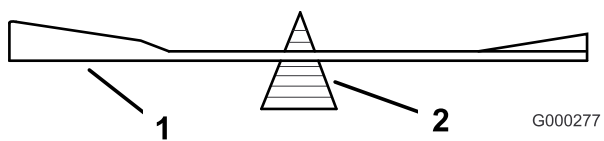

Figure 97
2. Check the balance of the blade by putting it on a blade balancer (Figure 97). If the blade stays in a horizontal position, the blade is balanced and can be used. If the blade is not balanced, file some metal off the end of
the sail area only (Figure 97). Repeat this procedure until the blade is balanced.